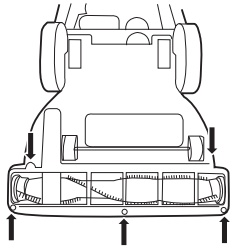

Fig. 25
- Remove the bottom plate of the base by removing the 5 screws using a Phillips screwdriver. (Fig. 25)